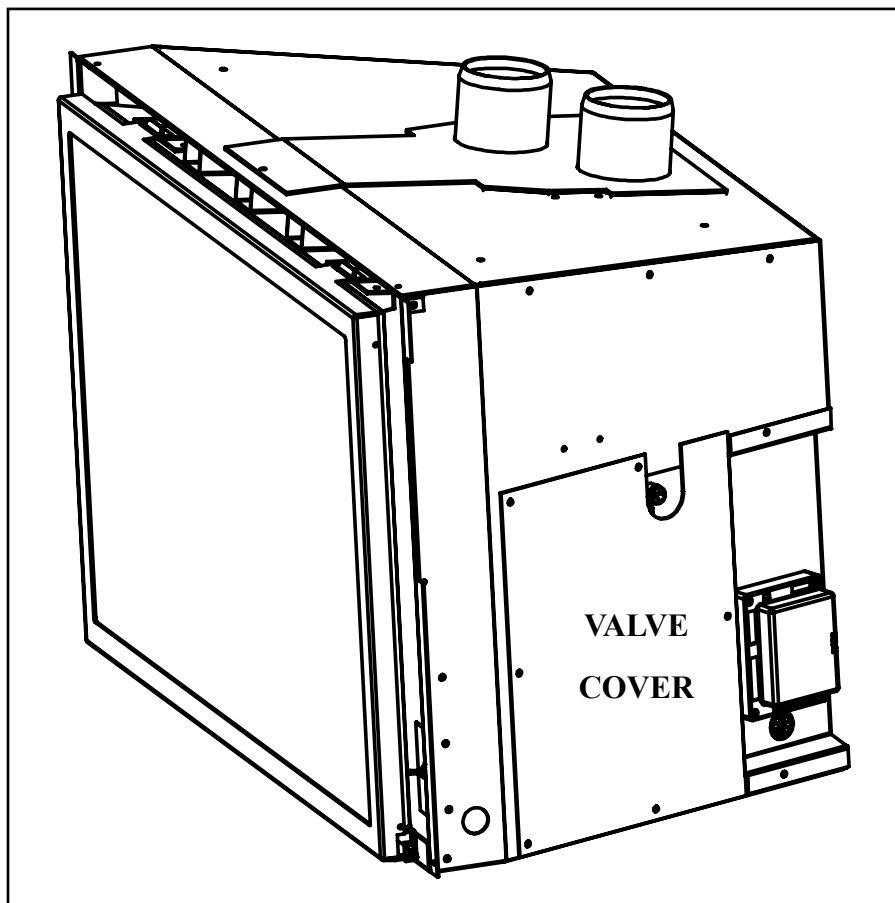

Figure 20: Valve Cover.
1. Use a T-20 screwdriver to remove the eight screws that hold down the valve cover shown in Fig. 20.